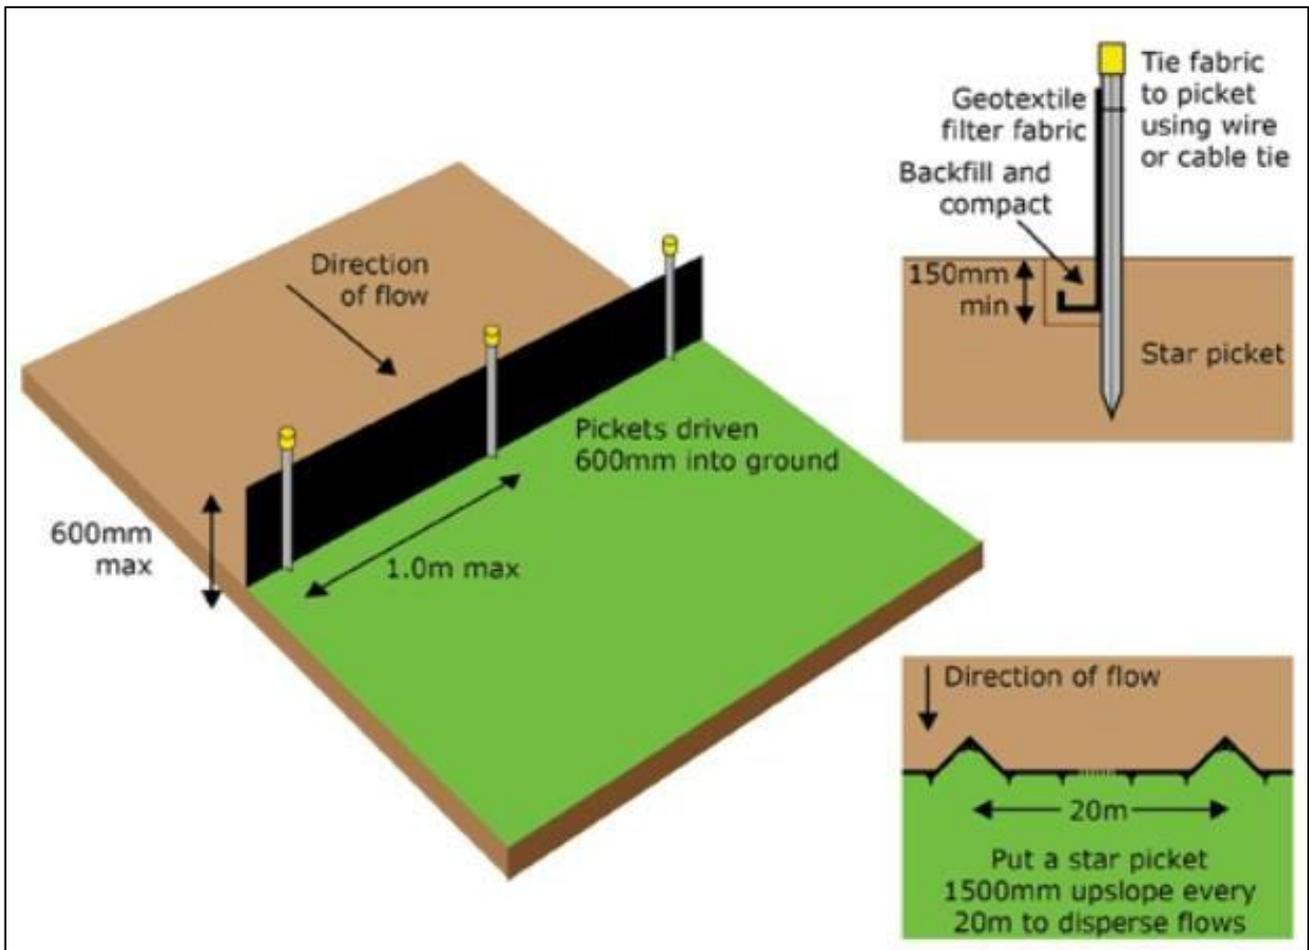

Figure 1: Silt Trap Fencing
All individuals present on site during the construction of the development are legally obligated to comply with legislation outlined in the Wildlife Act 1976, as amended. It is the responsibility of the Construction manager to ensure that fencing is erected at the beginning of the construction phase. Silt trap fencing is to be constructed surrounding the site as per Figure 1. Any breach of environmental protocol or deviation from the instructions of this CEMP is to be reported to the Construction Manager / Environmental Site Officer.
- Silt fencing to be erected down-gradient of the construction areas and construction compound. (See Figure 1)